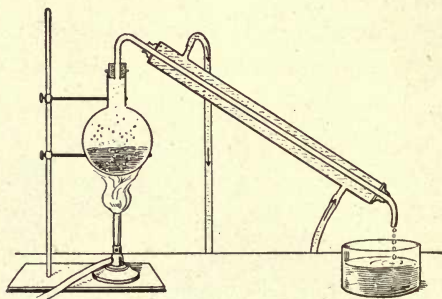

FIG. 109. — Pure Water may be Obtained by Distillation.
**Experiment 31.** — Arrange a Liebig condenser as shown in Figure 109. Fill the flask with water that has been discolored with foreign matter, such as coal dust, dirt, or ink. As the water passes into steam and is again condensed it will be found to be as